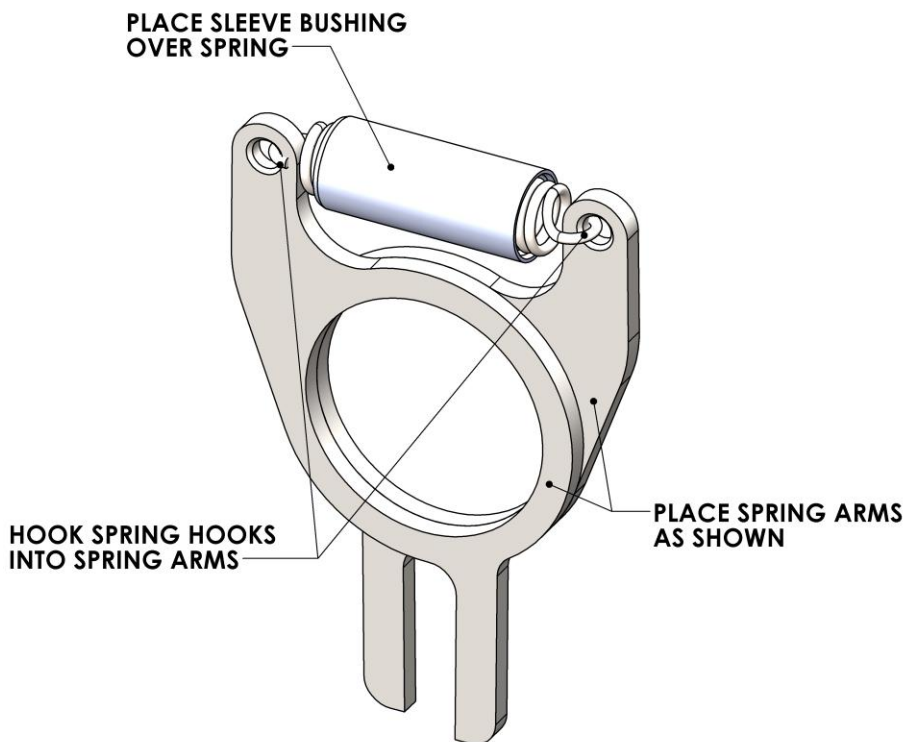

Figure 27: Arranging Spring and spring arm for replacement on new cam
29. Place the Sleeve bushing over the spring and put the spring hooks into the spring arm retention holes as shown in Figure 27.
30. Ensure all the components are arranged and oriented as shown in Figure 27.